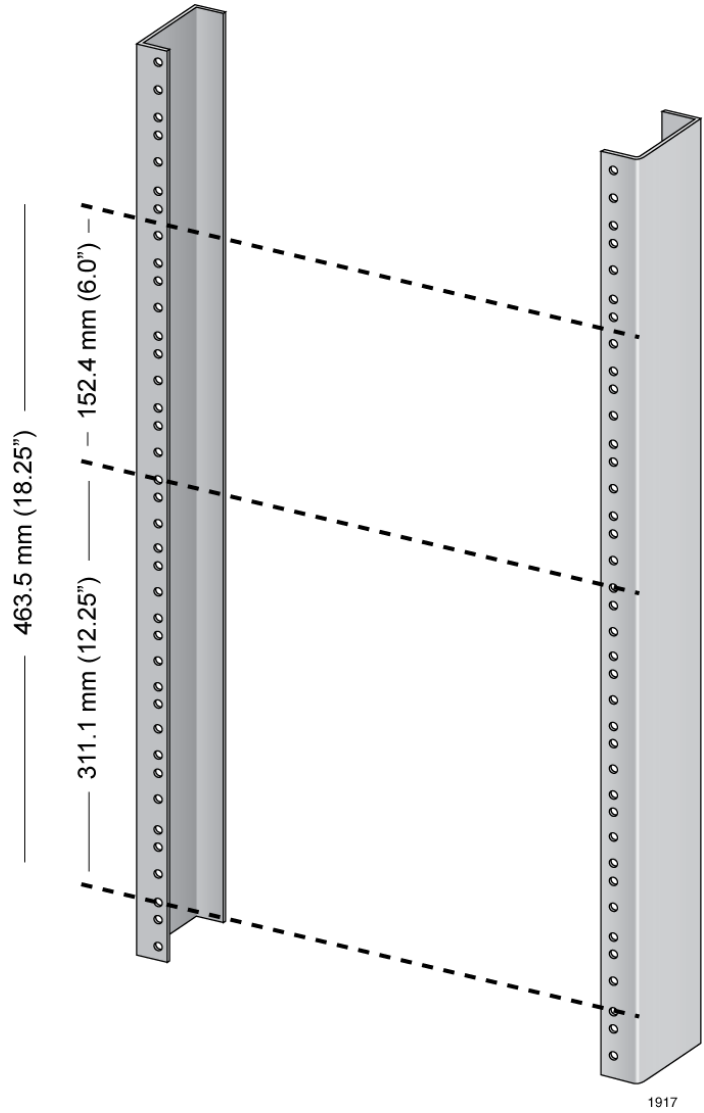

Figure 33. Reserving Vertical Rack Space
1. Reserve 311.1 mm (12.25") of vertical rack space for the installation of the AT-SBx8112 Chassis, as shown in Figure 33 on page 104.